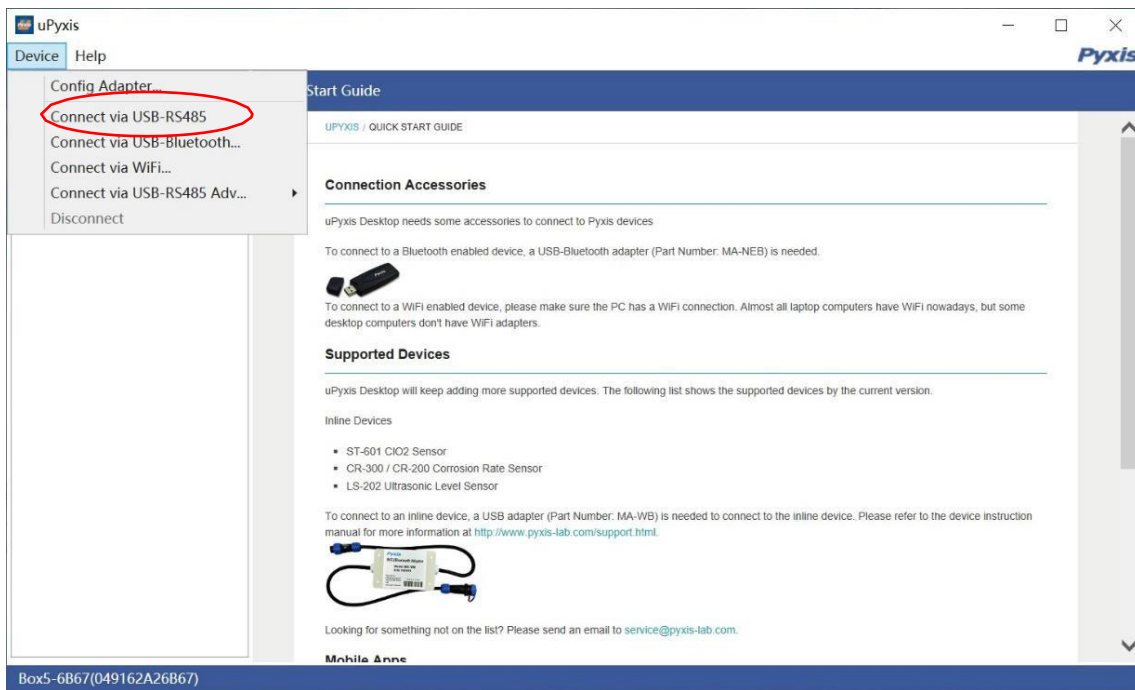

Figure 18 - Connection Options
- 6) Select Connect via USB-RS485 (*Figure 18*).